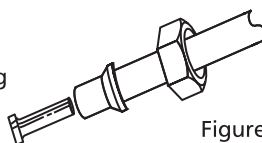

Figure 1
**4** Install faucet adapter fitting to faucet. *To prevent damage to fitting, do not over-tighten.* Insert a section of plastic tubing into fitting, ensuring the end of the tubing is firmly seated to backstop. (See Figure 1)